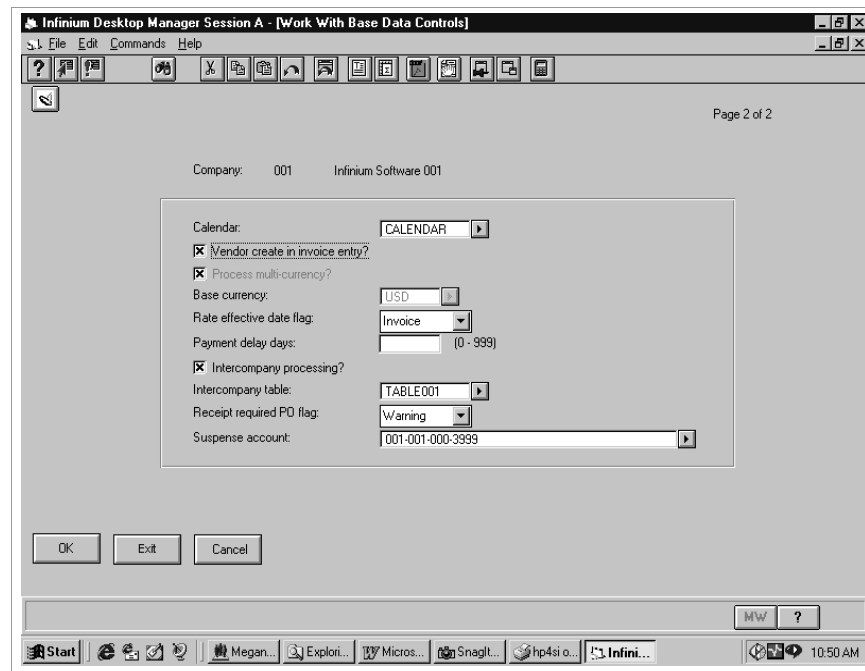

Figure 3-10: Work With Base Data Controls screen
- 4 Press Enter. The system displays the screen shown in Figure 3-10.